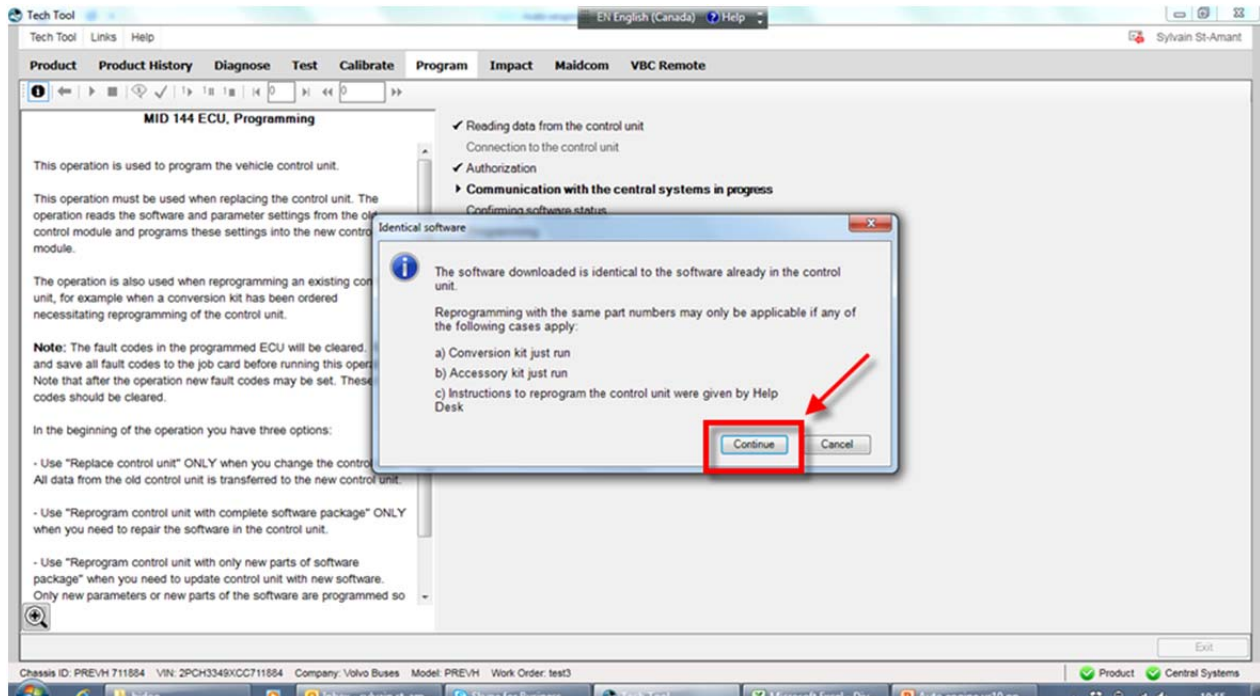

FIGURE 24
6. Click CONTINUE (FIGURE 24).